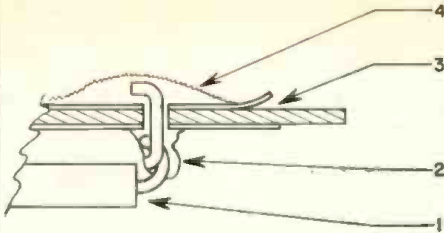

Fig. 5
6. It is suggested that you do not solder a replacement component lead to an old component lead, as demonstrated in Fig. 5. This diagram shows (1) the new component, (2) a poorly executed solder joint due to oxidation of the old lead, (3) circuitry lifted where long periods of heat have been transmitted through the board and destroyed the bond between board and circuit, and (4) crystallized solder which makes the entire joint questionable, both mechanically and electrically.